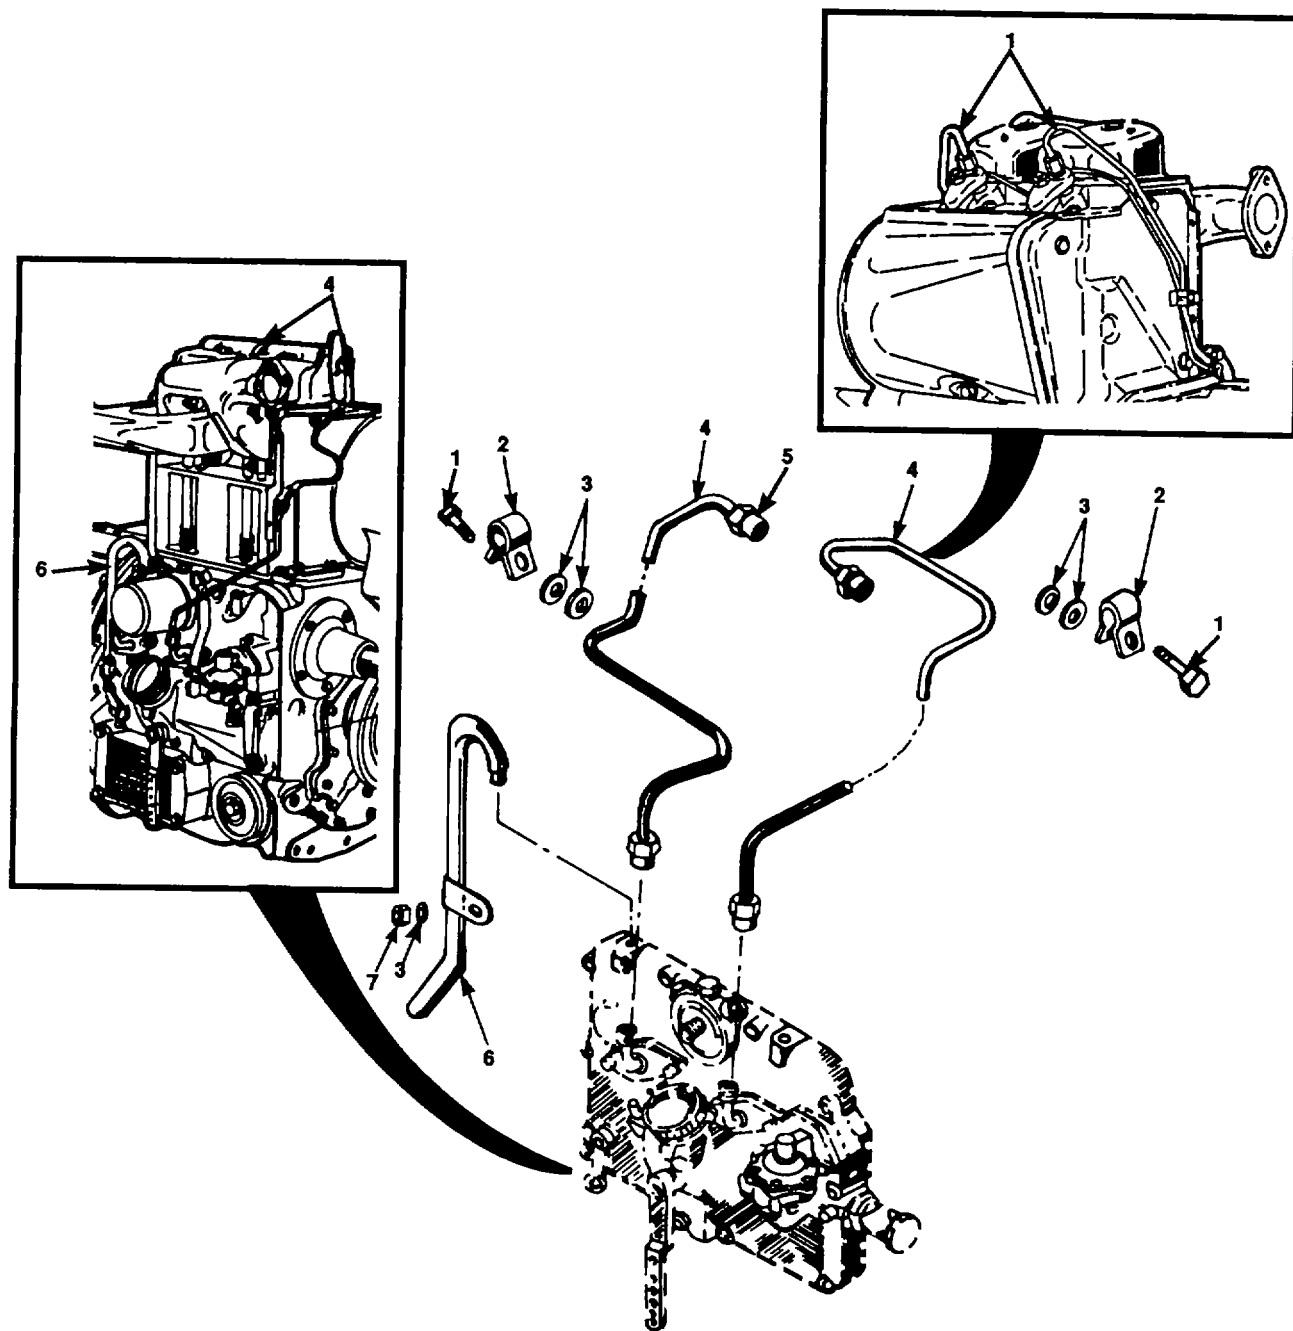

Figure 3-26. Injection Lines
Visually inspect fuel injection pipes (4, figure 3-26) for leaks, holes, crimps or damage. Ensure compression fittings (5) and mounting brackets (2) are secure.